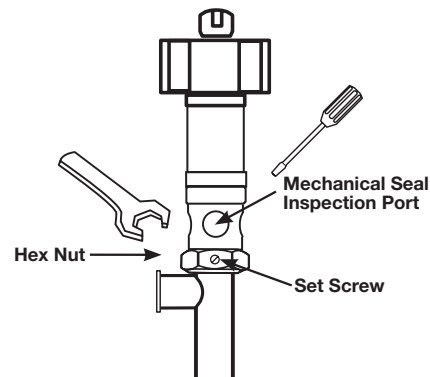

Figure 5
5. Loosen set screw on side of Hex Nut (see Figure 5).
6. Place a screwdriver (or similarly shaped object) in the mechanical seal inspection port (see Figure 5).
7. Use a large wrench to loosen the Hex Nut while simultaneously holding the screwdriver in the seal inspection port (see Figure 5).
- Tighten the Hex Nut on the pump body to the Bearing housing. Use screwdriver (or similarly shaped object) in the mechanical seal inspection port (see Figure 5, page 4).
- Use a large wrench to tighten the Hex Nut while simultaneously holding the screwdriver in the seal inspection port (see Figure 5, page 4).